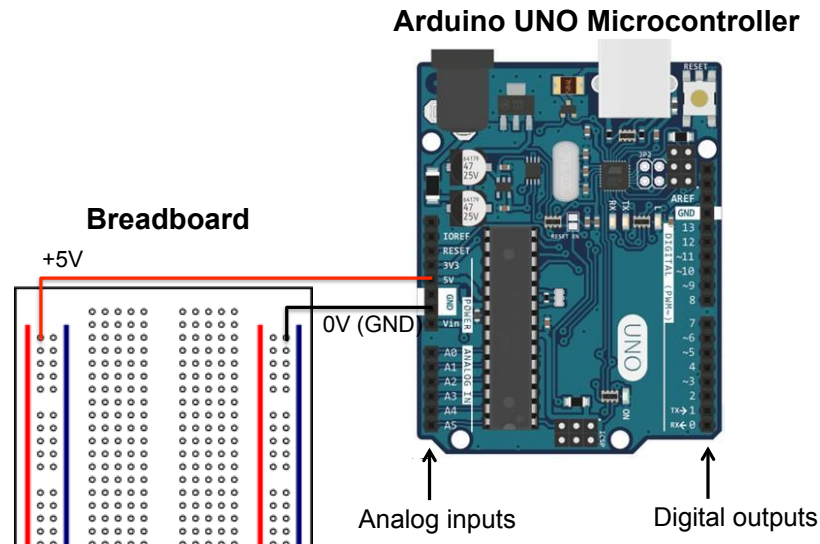
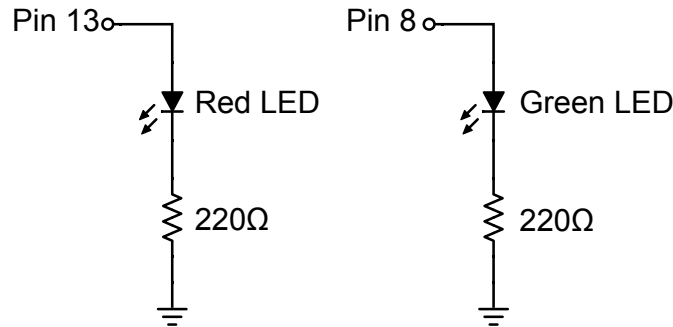

Figure 1 – The Arduino UNO Microcontroller works in tandem with breadboard.
Figure 3 – Digital outputs from the Arduino are used to drive two different LEDs. The 220Ω resistors are used to limit the current and prevent voltage droop.
The Arduino UNO is an inexpensive microcontroller commonly used by hobbyists and engineering students. Shown in Figure 1, the UNO is connected to a breadboard where various sensors and circuits can be implemented (i.e. a thermistor in a voltage divider circuit). Here are a few of the more salient features of the UNO.
2. Use red and black jumper wires to connect the +5V and GND pins on the Arduino to the vertical bus lines on the breadboard, as shown in Fig. 1. Use the orange handheld DMM to verify that it is providing +5V of power.
1. Using the breadboard, connect the Red LED in series with a 220Ω resistor. Use a long jumper wire to connect digital output pin 13 to the LED, as shown in Fig. 3. The resistor should be connected to GND via the vertical bus line as shown in Figure 1.
2. Construct the Green LED circuit in a similar fashion. Use another long jumper wire to connect digital output pin 8 to the LED, as shown in Fig. 3.